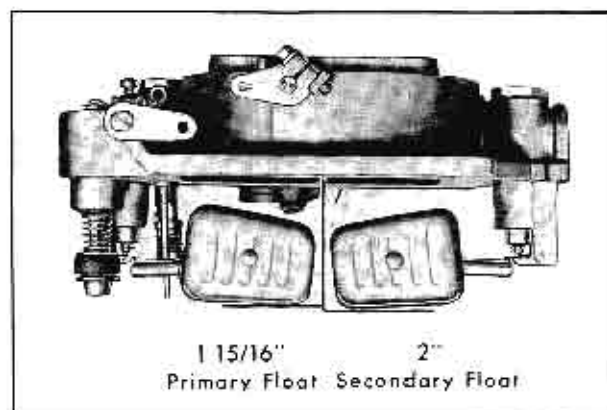

Fig. 12-28 Float Drop Adjustment
1. After performing the Float Level Adjustment, hold bowl cover assembly in upright position and note the distances which the floats drop, Fig. 12-28.
2. Measure from machined surface of bowl cover casting down to bottom and center of floats. Distances should be  $1-15/16$ " for primary floats and 2" for secondary floats, as shown in Fig. 12-28.